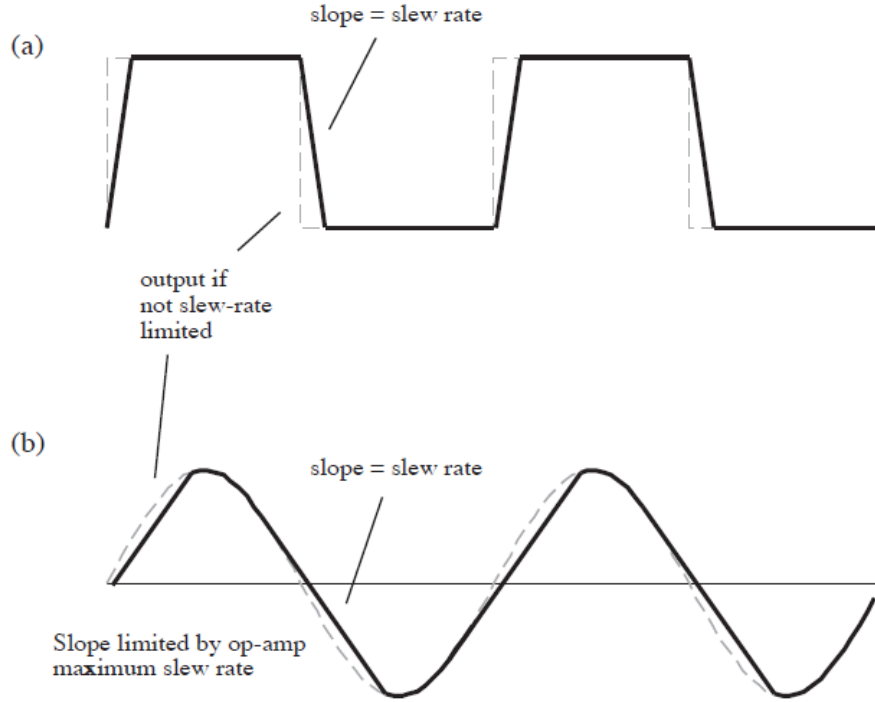

Figure 3: The limitations due to slew rate for a square-wave and sine-wave output of an op-amp.
The rate at which the output voltage of an op-amp can change is known as the slew rate which is measured in  $V/\mu s$ . If we have a square wave input to an op-amp circuit, then the output will be limited by the slew rate as shown in Figure 3(a). The same problem can apply to other types of signals. If an input voltage has time dependence of  $\sin(\omega t)$ , and produces an output voltage of  $V_{out} = V_o \sin(\omega t)$ , then the rate of change of this output voltage is
If the maximum rate of change is larger than the slew rate of the op-amp, then the output signal will be distorted as shown in Figure 3(b).
- Measure the slope of the output signal ( $\Delta V/\Delta t$  during rising or falling slope of the wave) see Figure 3(b)